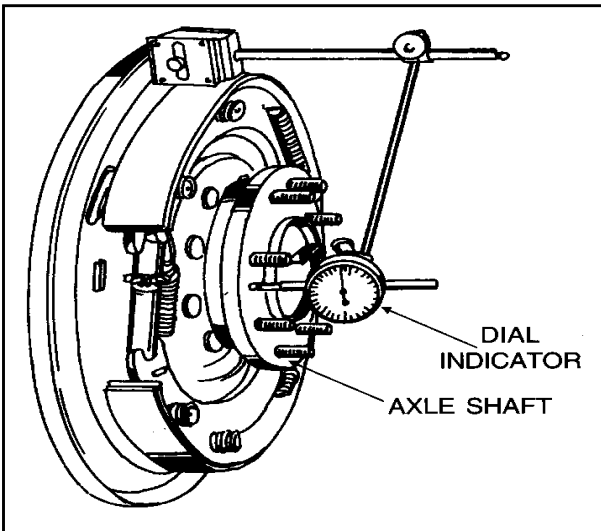

Figure 8
- c. There is unique rear axle shaft seal arrangement. See Figure 8.
With reference to Figure 8.